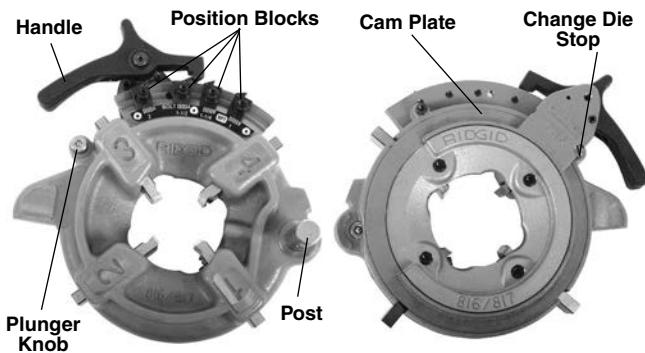

Figure 13 – Semi-Automatic Die Head
2. Depress handle so that cam plate rests against the change die stop (*Figure 13*). The cam plate/handle assembly is spring loaded and will move when depressed.